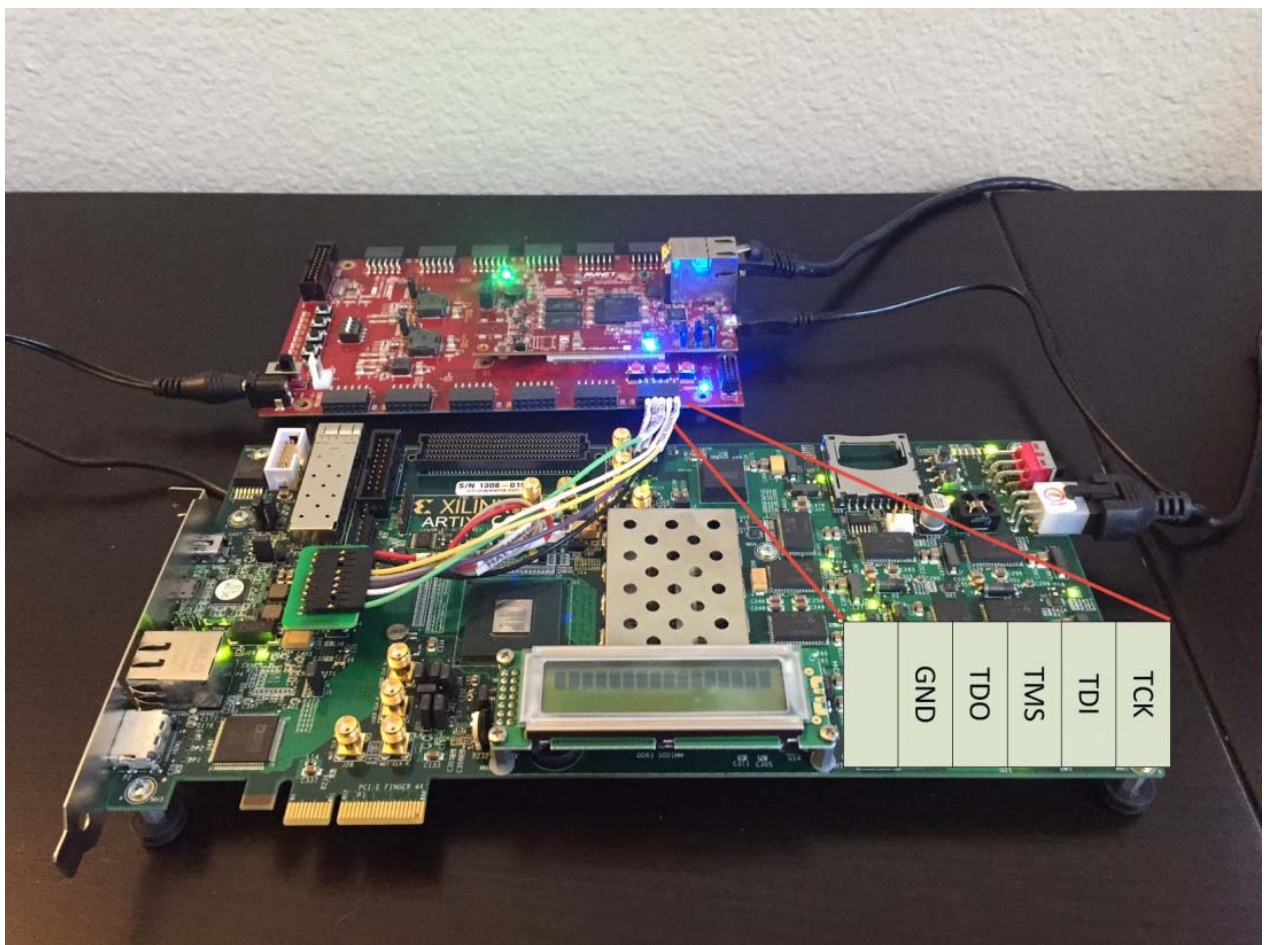

Figure 11: Hardware Setup
The MicroZed board is connected to the MicroZed I/O carrier card so that programmable logic I/Os can act as the JTAG signals. The I/O board is connected to an AC701 board by a JTAG flying wire adapter as shown in Figure 11.
3. After the MicroZed is connected as shown in Figure 11, connect the Ethernet cable from the MicroZed board to a host machine with Vivado design tools installed, or to a router with a host machine connected to the router. Also connect the USB cable to the MicroZed board and establish a serial connection with the same host machine. Power on the MicroZed board and log into Linux with the user name and password both as 'root'.